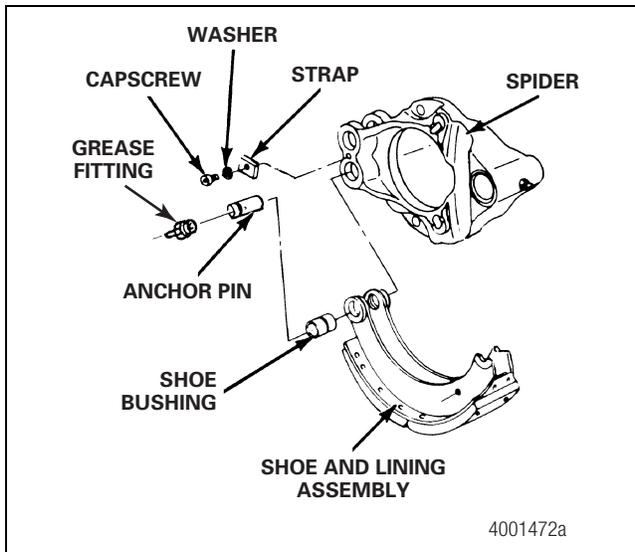

Figure 5.2
- B. Remove the strap. Figure 5.2.